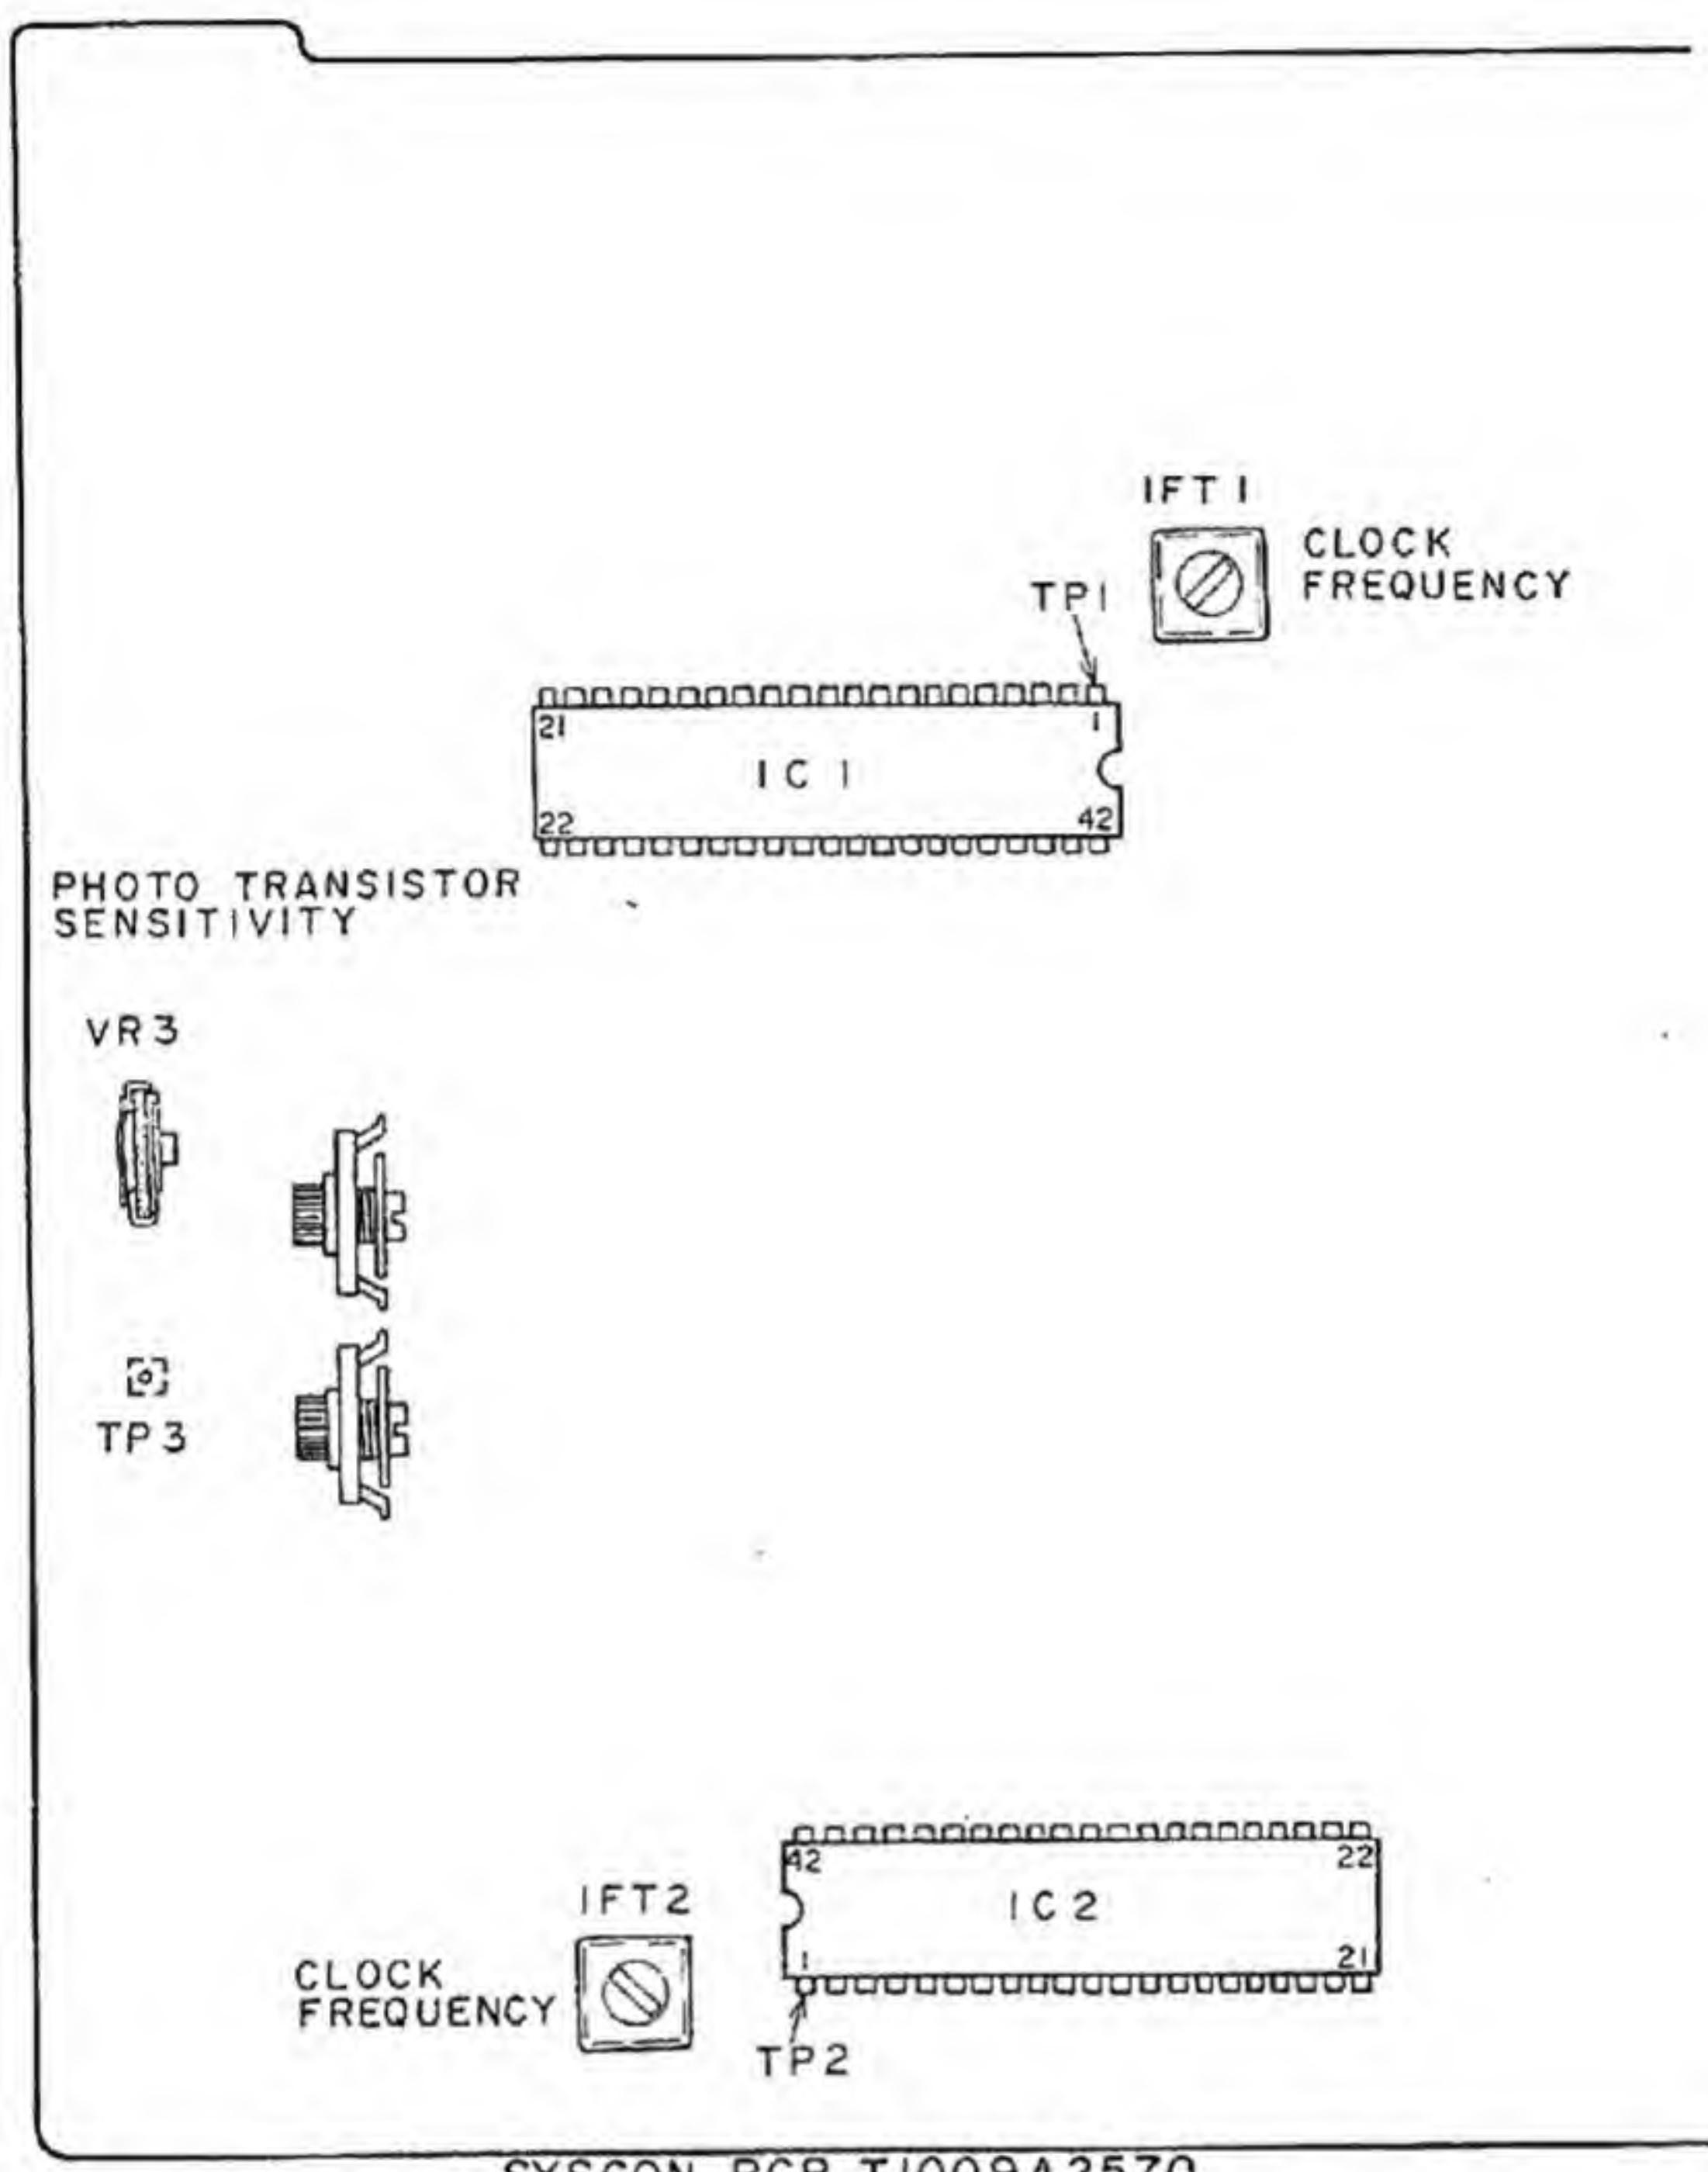

Fig. 44 Syscon P.C Board T1009A2570
1. CLOCK FREQUENCY ADJUSTMENT (Refer to Fig. 44)
2. PHOTO TRANSISTOR SENSITIVITY (Refer to Figs. 44, 45)